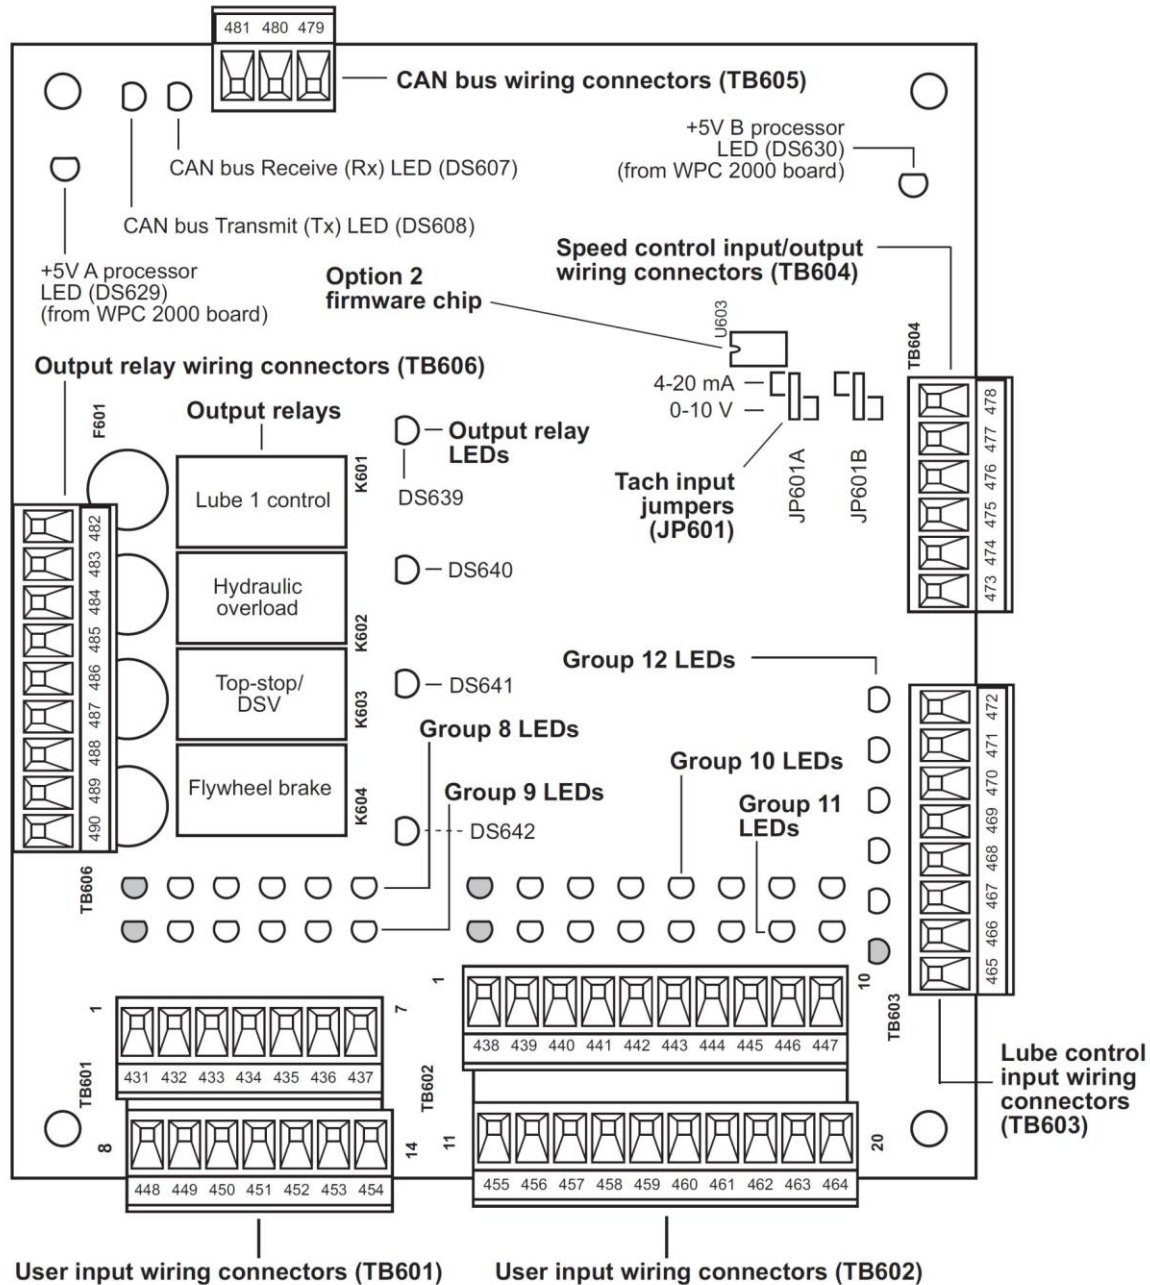

Figure 2-3. Option 2 Board: Location of Important Components
2. Making sure that you are grounded, open the enclosure and find the Option 2 firmware chip (U603) on the Option 2 board (see Figure 2-3, page 22). Note the direction in which the notch on the chip faces. A newer board may not have a firmware chip inserted; the standard code may be stored directly in the board's memory.
5. Plug the chip into the firmware socket, inserting the upper row of pins first, then aligning the bottom row of pins over the socket and pushing them in. Make sure that the notch in the chip faces in the same direction as the notch in the socket (see Figure 2-3, page 22) and that all of the pins are plugged into the socket.
Wiring connections for WPC 2000 Option 2 user inputs are made on terminal blocks TB601 and TB602 on the Option 2 board (see Figure 2-3 next page). Pin numbers are shown in Table 2-2, page 23, and Figure 1 at the end of the manual. See *Expanded User Inputs* in Chapter 1 of your user manual, for a description of Option 2 user inputs.